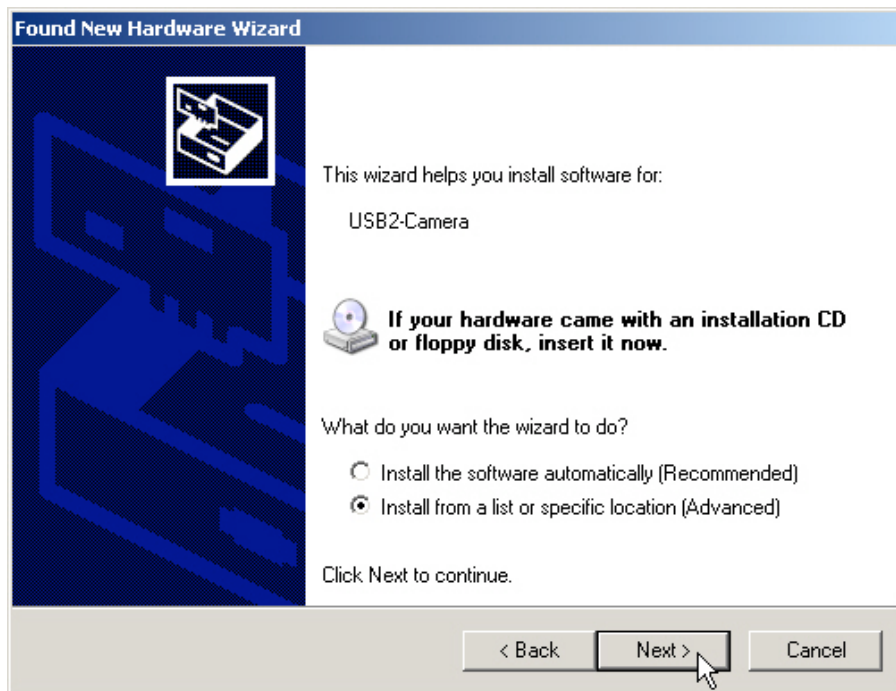

Fig 2.2
b) A new dialog box will pop up as shown in Fig.2.2 and check “**Install from a list or specific location(Advanced)**” and press **Next>** button